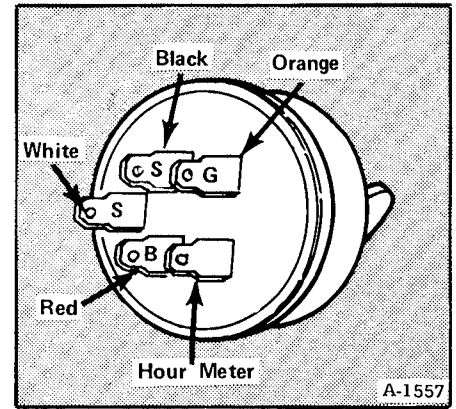

Fig. 39 Ignition Terminal
2. Prevent alternator (AC) leads from touching or shorting. This could permanently damage the stator.
4. Check the leads on the terminal plug on the wiring harness to see that they are in the correct location (Figure 39). The battery or hot (orange) wire must go to the B+ terminal on the rectifier-regulator.